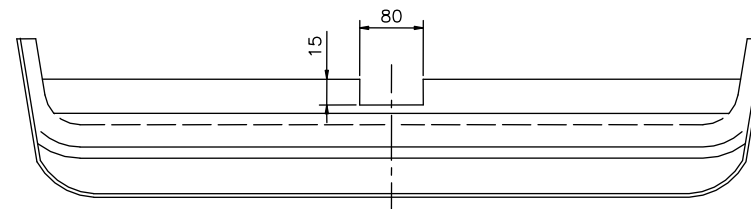

Fig. 2 Bumper cut out
2. In bottom part of the bumper cut out fragment according to figure 2.
3. On protruding pins in rear wall of car body put left handle (pos. 7) on the left side and right handle (pos. 6) on the right side and fix using original nuts M8 from metal reinforcement disassembly and per one bolt M10x35mm (pos. 12) from accessories (fix loosely).
4. With in this way prepared elements fix side brackets (pos. 4 and 5) and main bar of the towing hitch pos. 1 using bolts M12x40mm (pos. 11) – see drawing.
6. Inside the trunk put fish-plates (pos. 8 and 9) in this way, so holes of the fish-plates agree with holes drilled before and fix loosely using bolts M10x35mm (pos. 12).
7. Through holes pos. B of fish-plates drill straight through holes $\varnothing 11$ mm and next fix with rectangular washer (pos. 10) by bolts M10x35mm (pos. 12).
9. Fix body of the automat and place tow-ball according to supplied instruction. Note! Remember to place socket plate (pos. 3) as shown on the drawing 1.